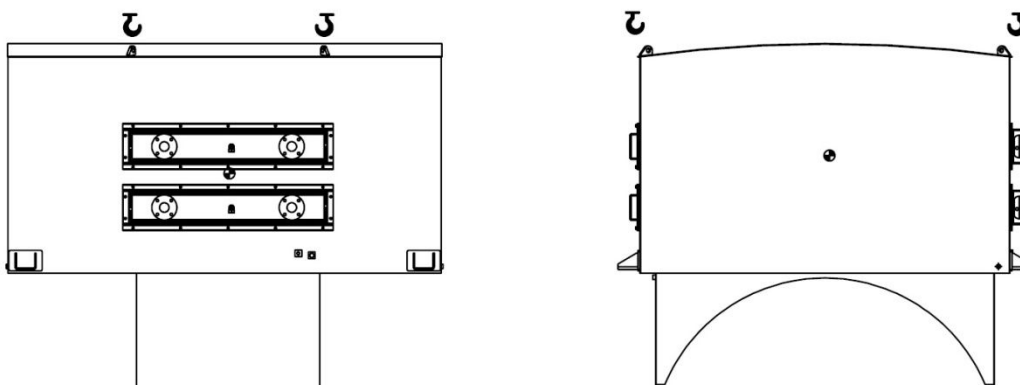

Figure 3-3 Cooler housing (include water coolers)
5. Lift the cooler housing using lifting lugs placed on the top side, see Figure 3-3.